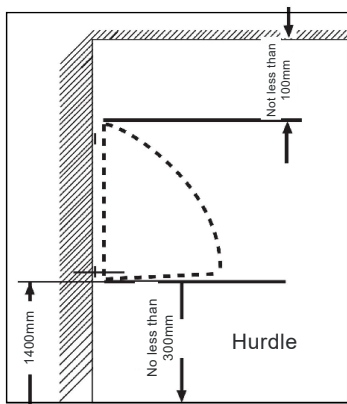

Figure 1
1. By using the recommended elevations and parameters for the installation, mark the position of the hand dryer on the wall (Figure 1).